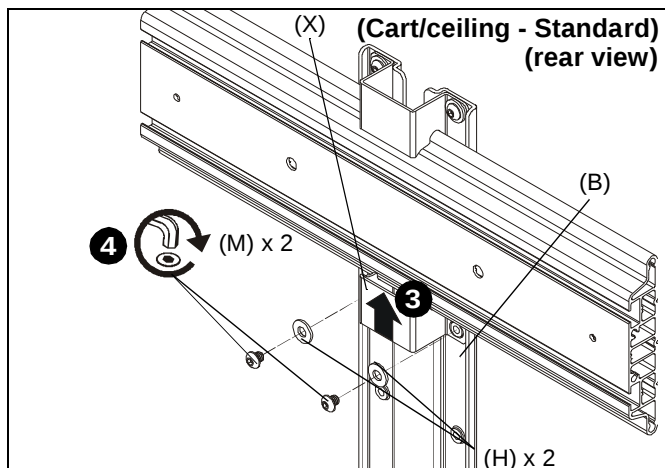

Figure 8
3. Slide second shelf bracket (X) underneath head assembly, lining up holes on shelf bracket (X) to holes on main bracket (B). (See Figure 8)
4. Use two 1/4-20 x 1/4" button head cap screws (M) and two large washers (H) to secure shelf bracket (X) to main bracket (B). (See Figure 8)